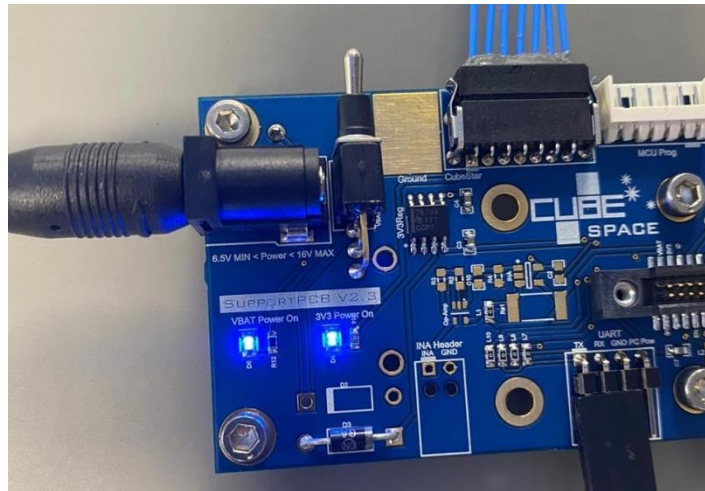

Figure 4 CubeSupport Power Indicating LEDs
7. Switch on the power to CubeSense by flicking the power switch on the CubeSupport board to the upwards "on" position. Both the "VBAT" and "3V3" power indicating LEDs should be illuminated if the board is being correctly powered by the PSU as seen in Figure 4.